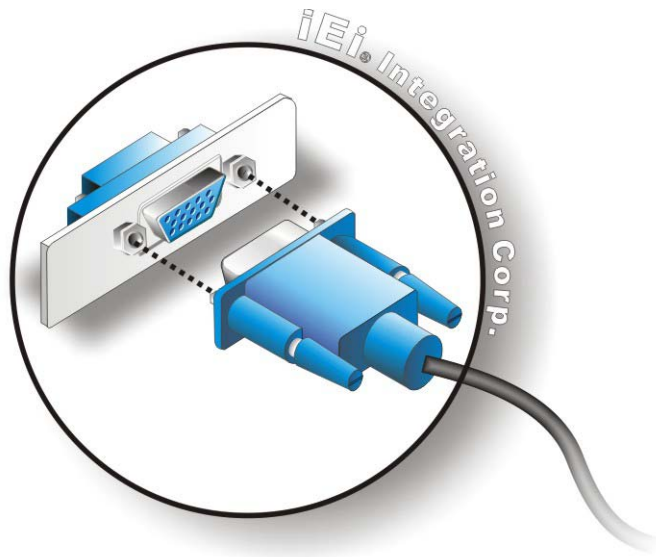

Figure 4-12: VGA Connector
- Step 7: Insert the VGA connector** Once the connectors are properly aligned with the insert the male connector from the VGA screen into the female connector on the NANO-SE-i1. See **Figure 4-12**.